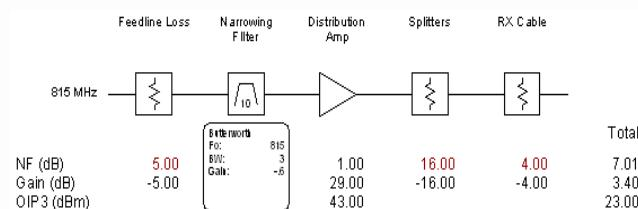

Figure: 1
**Figure: 1** shows a system that uses an RX multicoupler only. Without having the front end LNA to compensate for the feedline loss, the overall system NF is approximately 7.0dB. Please note that the receiver sensitivity will degrade proportionally to the increase in NF.